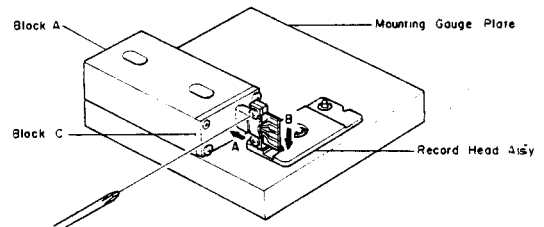

Fig. 2.17
- (5) Remove the Block B from the Mounting Gauge Plate.
- (6) As shown in Fig. 2.17, mount the R-8L record head assembly onto the Mounting Gauge Plate, then check the location of the R-8L record head surface. (If record head touches the Block C, loosen 2 pcs. of screws that assemble record head and record head plate, then place the R-8L record head assembly onto the Plate.)
- (7) Remove the R-8L record head assembly from the Mounting Gauge Plate.
- (8) Readjustment of Record Head Mounting Gauge M-9048 (DA09048A)
- (9) Remove the Block B from the Mounting Gauge Plate.
- (10) Mount the R-8L record head assembly onto the Mounting Gauge Plate.
- (11) As shown in Fig. 2.17, loosen 2 pcs. of screws that assemble record head and record head plate.